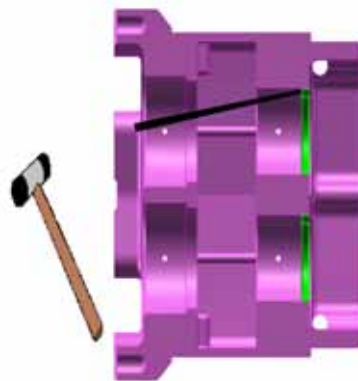

Figure 53 – Removing Rear Oil Seals from Gearbox
14. Remove and discard the gearbox rear oil seals, Figure 53.